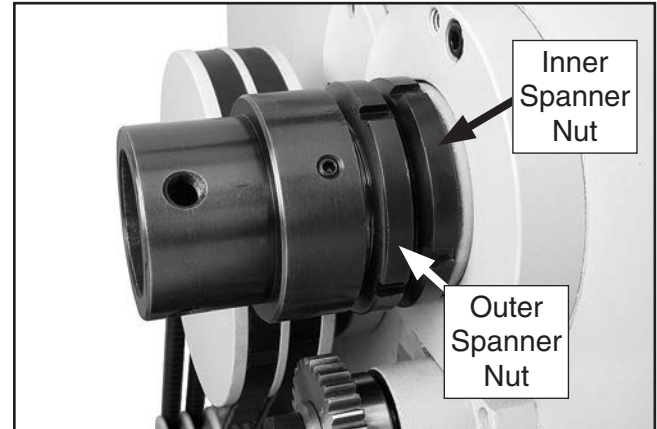

Figure 135. Example of spindle spanner nuts.
4. Place chuck wrench in camlock socket to keep spindle from rotating, and loosen outer spanner nut two turns (see **Figure 135**).